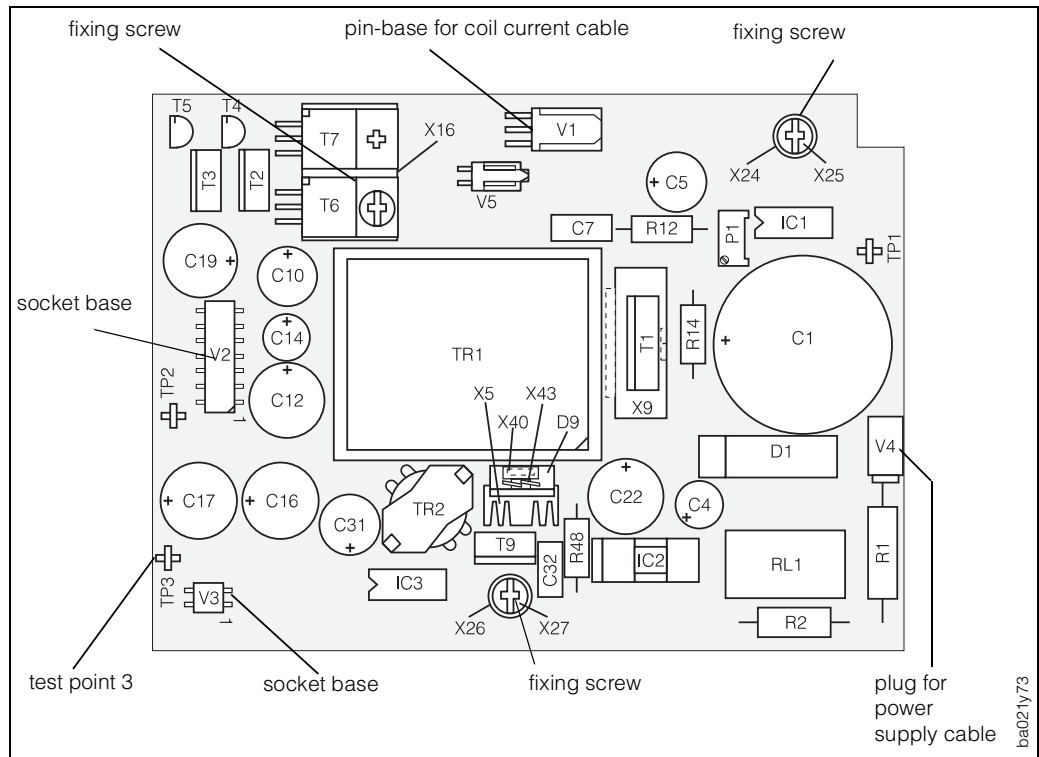

Fig. 45
4. Unplug the 2-pole plug of the supply cable by pressing down the catch from the power supply board (Fig. 45).
7. Remove coil-loaded cable plug from the supply board (Fig. 45).